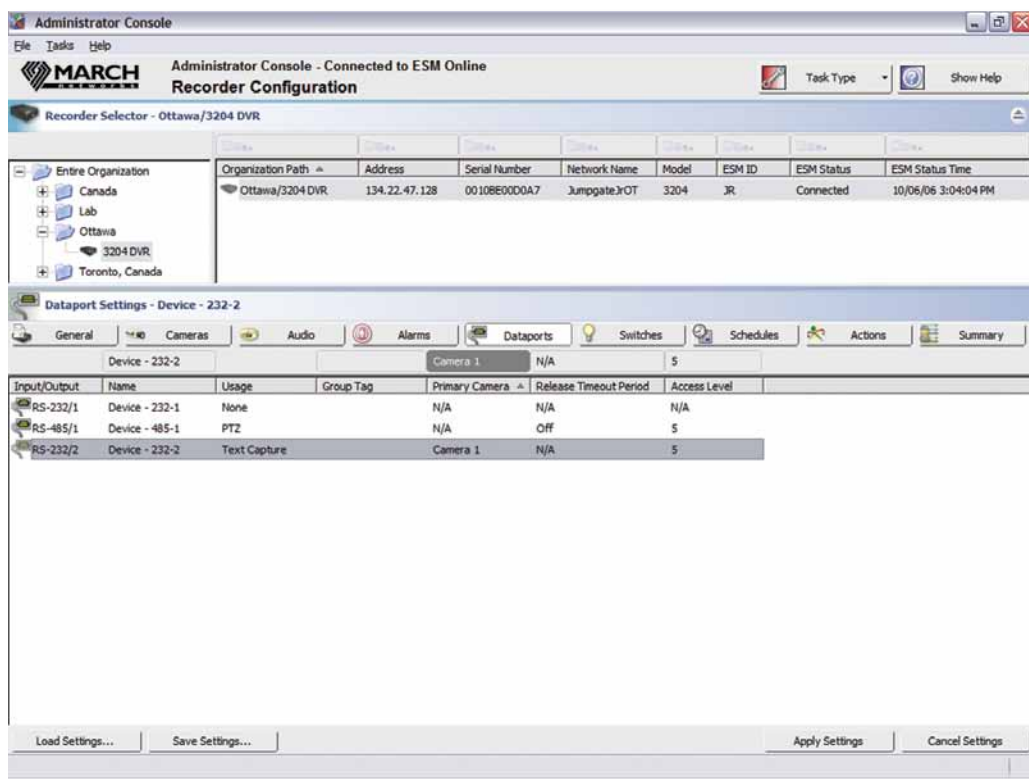

Figure 3: DVR/NVR Dataport Configuration
5. Setup the DVR/NVR by ensuring that the Administrator Console is loaded on the client PC or laptop being used, and that the DVR/NVR itself has been upgraded to version 5.2 or later. Navigate to the DVR's/NVR's dataport configuration, choose "Text Capture" as the Device Usage, and select the appropriate register type under "Text Capture protocols". Set the serial port parameters by clicking on the "Port Settings" button [Figure 3].